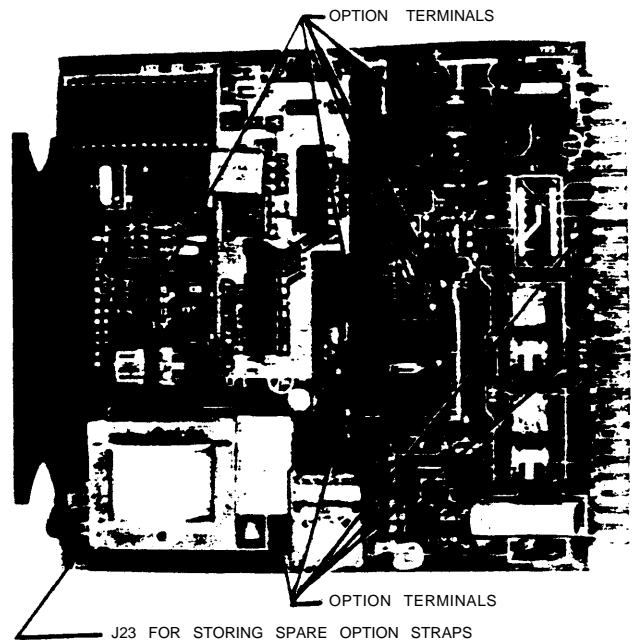
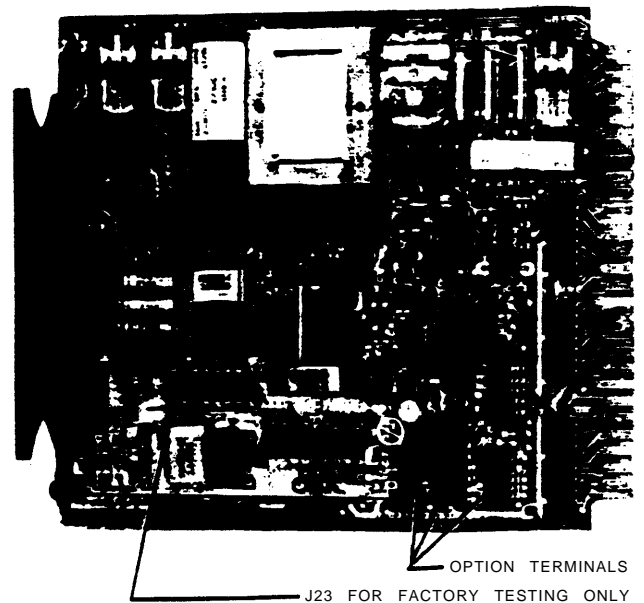

Fig. 30—Option Terminals on Issue 1 Applique
Fig. 31—Option Terminals on Issue 2 Applique
5.25 Type C Applique: Before this card is plugged in, the options should be selected using the push-on straps furnished in a separate plastic bag. Option terminals are located per Fig. 30 if the card is Issue 1, and per Fig. 31 if the card is Issue 2. Install the option straps in accordance with Fig. 32. Select the options as follows: